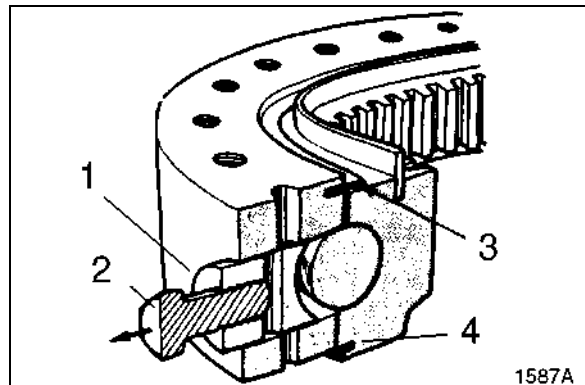
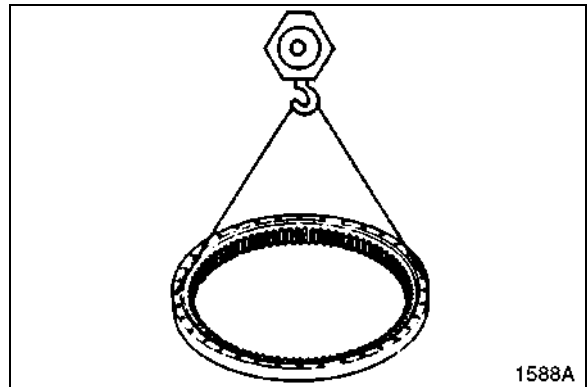

Figure 4
Figure 5
2. Remove plug (1, Figure 4) using a M10 x 1.25 bolt (2).
- Lift outer ring and check that inner ring can move freely. See Figure 5, if not, replace seal (3, Figure 4) and/or seal (4, Figure 4).